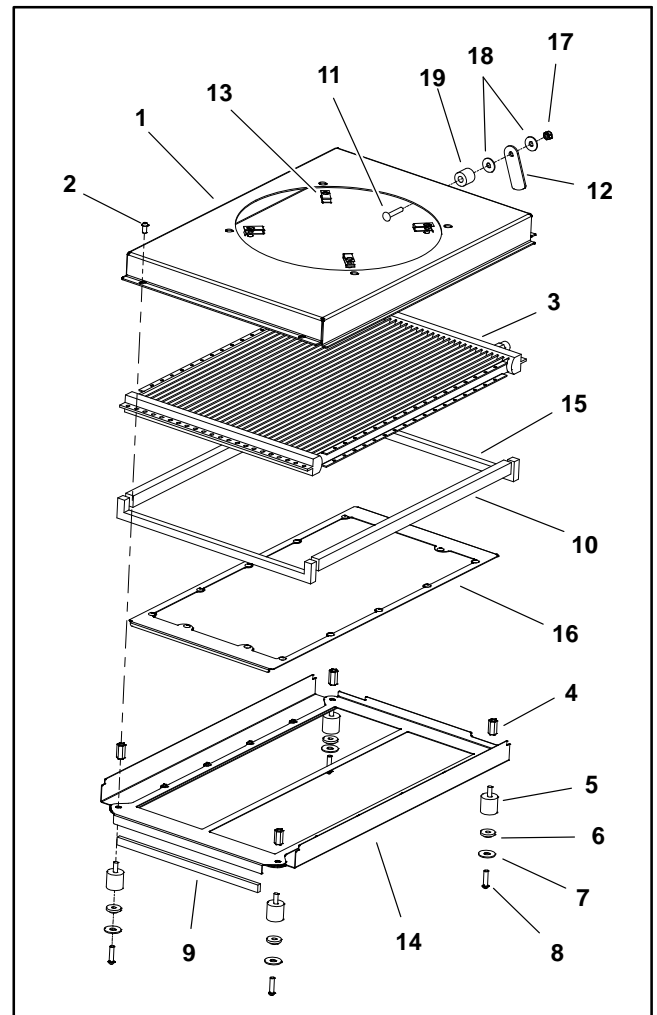

Figure 6
9. Remove condenser coil from roof using Figure 6 as a guide.
1. Install condenser coil to roof using Figure 6 as a guide.
3. Position condenser cover and condenser fan to roof. Secure cover and fan with removed fasteners (items 2, 6 and 8).
4. Secure condenser fan to condenser coil with button head screws (item 10).